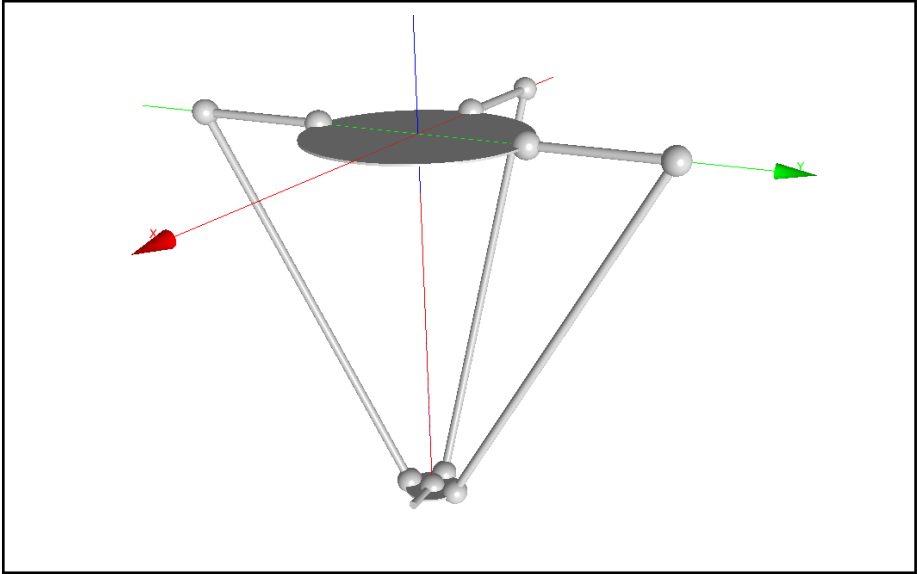

Fig. 4-49: Schematic view of 3-axis delta with 90 degree angles
- fig. 4-49 "Schematic view of 3-axis delta with 90 degree angles" on page 156 shows a delta robot at zero position of all axes, i.e. if the robot is in the position shown in the figures, the machine coordinates (MCS) for all of the axes have to be zero.